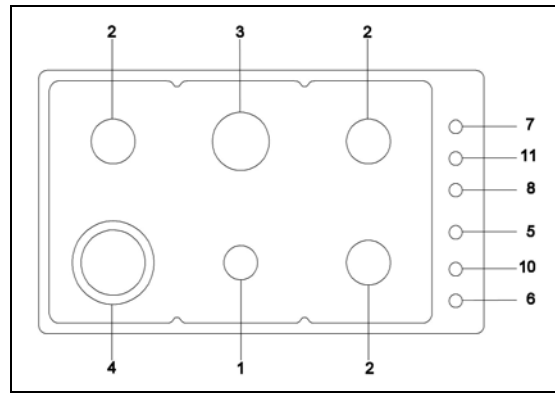

Fig.14
- TABLE DE CUISSON AU GAZ MODELE **P960**, cfr. FIG.14 - Schéma Electrique B----